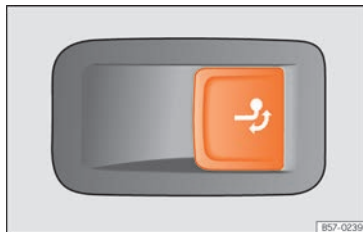

Fig. 215 On the right side of the luggage compartment: button for unlocking the tow hook.
- Pull the » Fig. 215 button briefly. The tow hook unlocks electrically and automatically turns outwards. The button's control lamp flashes.
- Pull the » Fig. 215 button briefly. The tow hook unlocks electrically.
- If the warning light on the button »» Fig. 215 → flashes, this means that the tow hook has not been attached properly or is damaged »» ⚠.
- If the warning lamp »» Fig. 215 → remains on with the rear lid open, the tow hook is correctly in place both when extracted and when covered.
- Never press the »» Fig. 215 button when there is a trailer hooked to the vehicle or when a carrier system or other accessories are mounted on the tow hook.